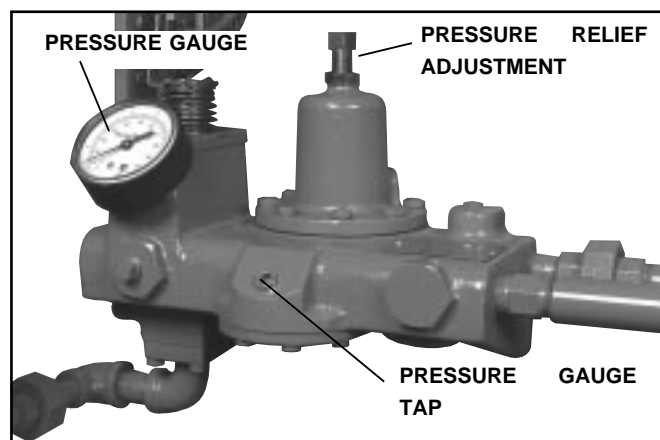

Figure: 5-11 Fuel Oil Controller
It is recommended that the final “installed” settings as noted on Figure 5-11, 5-12 and 5-13 be recorded for future reference. The settings should be marked on the linkage as well.
3. Verify that all the IFGR components are set to the settings recorded on the Start Up report or in Figures 5-11, 5-12 and 5-13 (as noted by the Cleaver-Brooks authorized representative during original set up). Be sure that all linkages are secure.